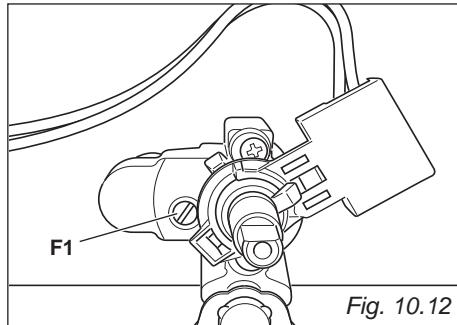

Fig. 10.12
- Using a screwdriver turn the screw "F1" until adjustment is correct (fig. 10.12).